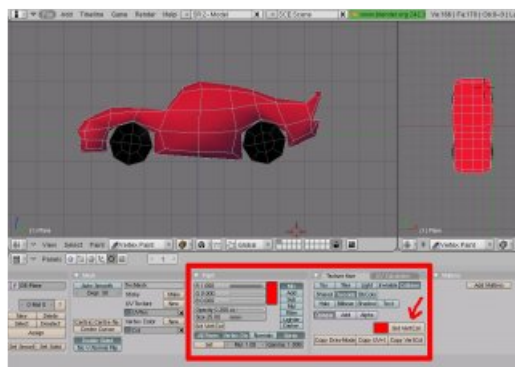

Fig 6: Vertex paint mode.
**2.** Select all the faces of the car (but not the tires) and in the Paint Panel in the Edit buttons window, set your paint color. I chose red. Hit the "Set Vert Color" in the Texture Face panel to apply your color to the car body. See fig 6.